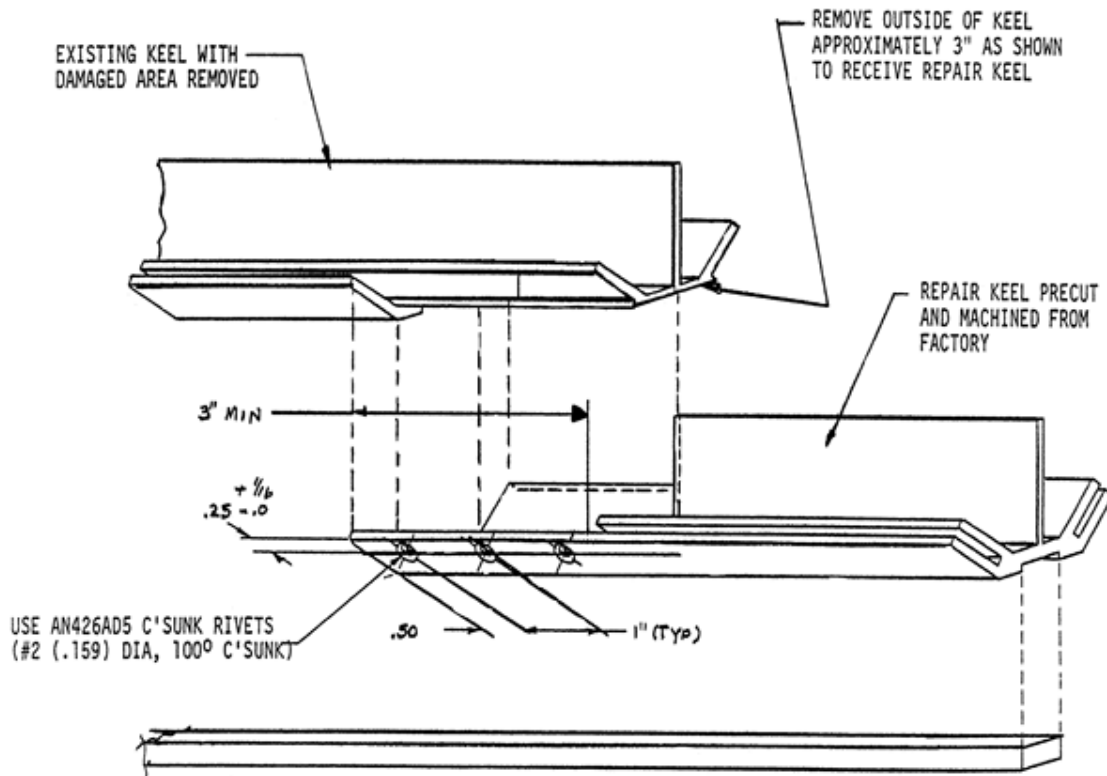

FIGURE 5.3-3: COMPLEX EXTRUSION SPLICE REPAIR
The 3730/3900, 4000, 6000, and 8000 float models utilize complex extrusions with channels on each flange into which the skins are inserted. Figure 5.3-3 depicts the general method of this splice repair. The replacement extrusions and wear strips can be purchased from the Wipaire Parts Department. Consult Table 5.3-1 below to locate applicable part numbers for your repair.
1. Remove the damaged area. On the remaining extrusion, cut out 3" of the outer layer of the extrusion as shown in Figure 5.3-3 so it can receive the repair piece.
3. Fasten the 2 pieces together in the overlapping area using AN426AD5 c'sunk rivets spaced per Figure 5.3-3.